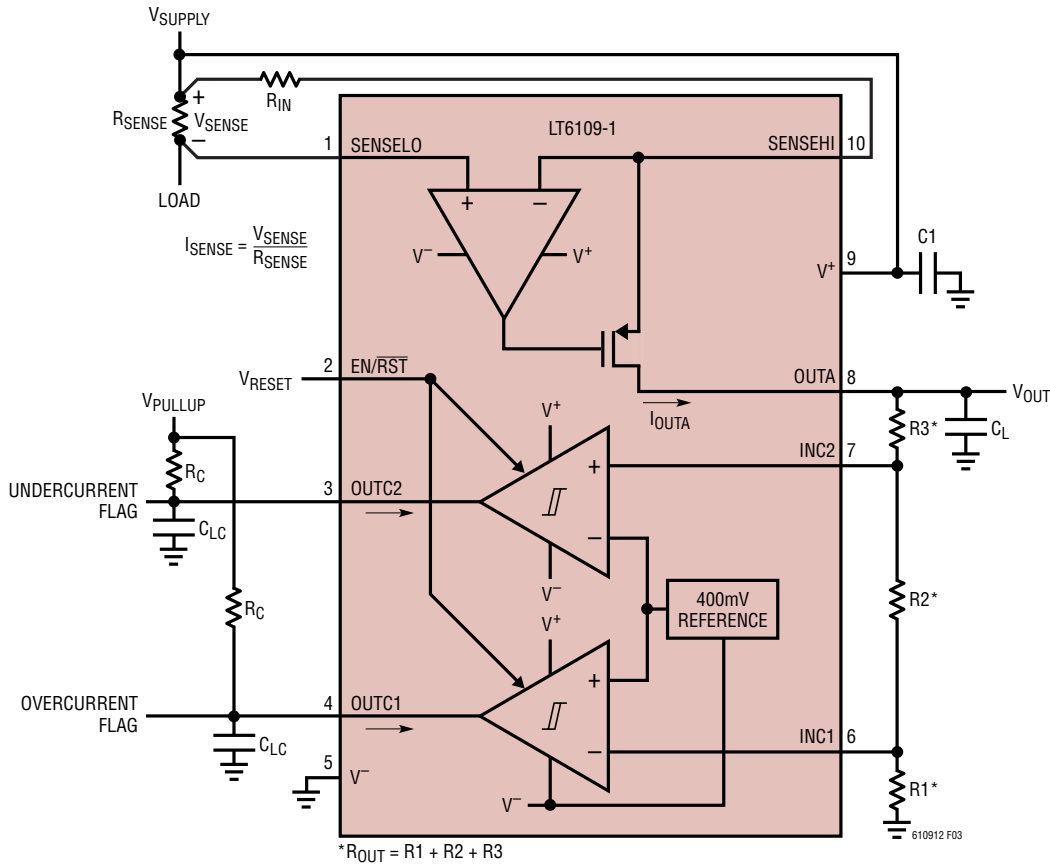

Figure 3. LT6109-1 Typical Connection
**TYPICAL PERFORMANCE CHARACTERISTICS** Performance characteristics taken at  $T_A = 25^\circ\text{C}$ ,  $V^+ = 12\text{V}$ ,  $V_{\text{PULLUP}} = V^+$ ,  $V_{\text{EN/RST}} = 2.7\text{V}$ ,  $R_{\text{IN}} = 100\Omega$ ,  $R_{\text{OUT}} = R1 + R2 + R3 = 10\text{k}$ , gain = 100,  $R_C = 25.5\text{k}$ ,  $C_L = C_{\text{LC}} = 2\text{pF}$ , unless otherwise noted. (See Figure 3)
Performance characteristics taken at  $T_A = 25^\circ\text{C}$ ,  $V^+ = 12\text{V}$ ,  $V_{\text{PULLUP}} = V^+$ ,  $V_{\text{EN/RST}} = 2.7\text{V}$ ,  $R_{\text{IN}} = 100\Omega$ ,  $R_{\text{OUT}} = R_1 + R_2 + R_3 = 10\text{k}$ , gain = 100,  $R_C = 25.5\text{k}$ ,  $C_L = C_{\text{LC}} = 2\text{pF}$ , unless otherwise noted. (See Figure 3)
**TYPICAL PERFORMANCE CHARACTERISTICS** Performance characteristics taken at  $T_A = 25^\circ\text{C}$ ,  $V^+ = 12\text{V}$ ,  $V_{\text{PULLUP}} = V^+$ ,  $V_{\text{EN/RST}} = 2.7\text{V}$ ,  $R_{\text{IN}} = 100\Omega$ ,  $R_{\text{OUT}} = R1 + R2 + R3 = 10\text{k}$ , gain = 100,  $R_C = 25.5\text{k}$ ,  $C_L = C_{LC} = 2\text{pF}$ , unless otherwise noted. (See Figure 3)
An internal sense amplifier loop forces SENSEHI to have the same potential as SENSELO as shown in Figure 3. Connecting an external resistor,  $R_{IN}$ , between SENSEHI and  $V_{SUPPLY}$  forces a potential,  $V_{SENSE}$ , across  $R_{IN}$ . A corresponding current,  $I_{OUTA}$ , equal to  $V_{SENSE}/R_{IN}$ , will flow through  $R_{IN}$ . The high impedance inputs of the sense amplifier do not load this current, so it will flow through an internal MOSFET to the output pin, OUTA.
where  $R_{OUT} = R_1 + R_2 + R_3$  as shown in Figure 3.
Kelvin connection of the SENSEHI and SENSELO inputs to the sense resistor should be used in all but the lowest power applications. Solder connections and PC board interconnections that carry high currents can cause significant error in measurement due to their relatively large resistances. One 10mm × 10mm square trace of 1oz copper is approximately 0.5mΩ. A 1mV error can be caused by as little as 2A flowing through this small interconnect. This will cause a 1% error for a full-scale  $V_{SENSE}$  of 100mV. A 10A load current in the same interconnect will cause a 5% error for the same 100mV signal. By isolating the sense traces from the high current paths, this error can be reduced by orders of magnitude. A sense resistor with integrated Kelvin sense terminals will give the best results. Figure 3 illustrates the recommended method for connecting the SENSEHI and SENSELO pins to the sense resistor.
then use the configuration shown in Figure 3. The desired trip points and full-scale analog output voltage for the circuit in Figure 3 can then be achieved using the following equations: